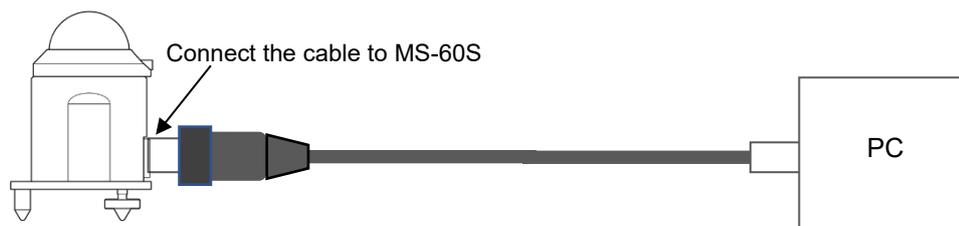

Figure A3-2. Using "EKO Converter cable"
- 4) If you use the optional "EKO Converter cable", you can install it simply by inserting the cable connector into MS-60S. Power for the MS-60S can be supplied via USB. (See Figure A3-2).